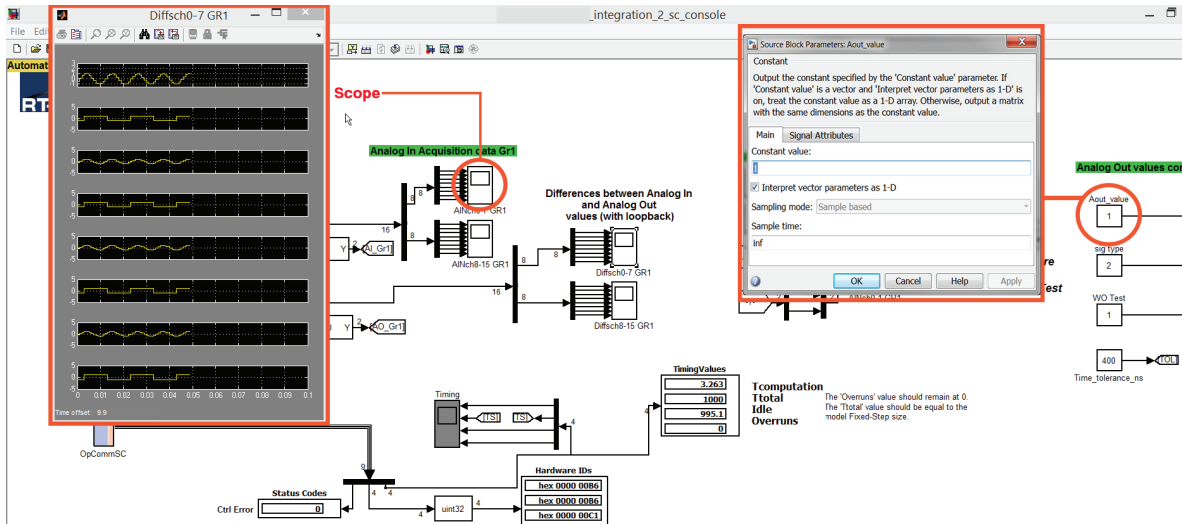

Figure 17: Sample of possible interactions with the running model
1. Click the Load toolbar button  and wait for the load process to be completed. Click on the Execute  button. A new console window appears. Your I/Os are up and running! You can now change constant blocks to control analog and digital output signals and observe analog and digital input signals using the various scope blocks (Figure 17):